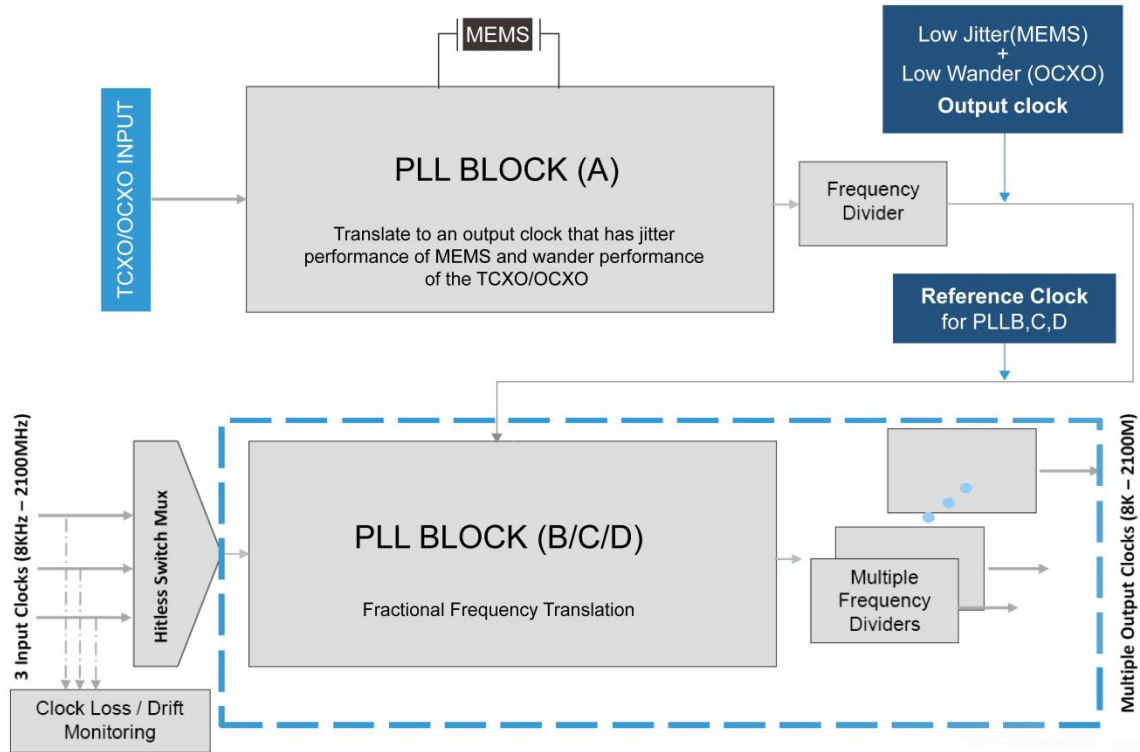

Figure 31. SiT95148 Low Wander Mode implementation diagram
A Low Wander Mode (LWM) is the mode that combines the best jitter from TCXO/OCXO MEMS resonator clocks. This dual loop PLL configuration leverages the lower TCXO/OCXO close-in phase noise (PN) with the lower further out PN of the embedded MEMS resonator. The LWM implementation is shown in Figure 31, in which PLLA generates a low wander reference for the rest of the PLLs. Any or all PLLs B, C, D can operate in LWM. Wander on the input clocks to any of the 3 PLLs is attenuated with PLL bandwidth (BW) set to less than 10 Hz.